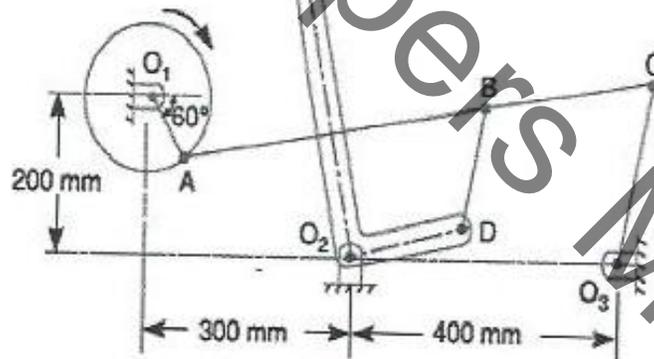

Figure: 1
3. The mechanism of a wrapping machine as shown in figure 1 has the following dimensions  $O_1A$  is 100 mm,  $AC$  is 700mm,  $BC$  is 200mm,  $O_3C$  is 200mm,  $O_2E$  is 400mm,  $O_2D$  is 200mm and  $BD$  is 150mm. The crank  $O_1A$  rotates at a uniform speed of 100 rad/s. Find the velocity of the point E of the bell crank lever by instantaneous centre method. [15]